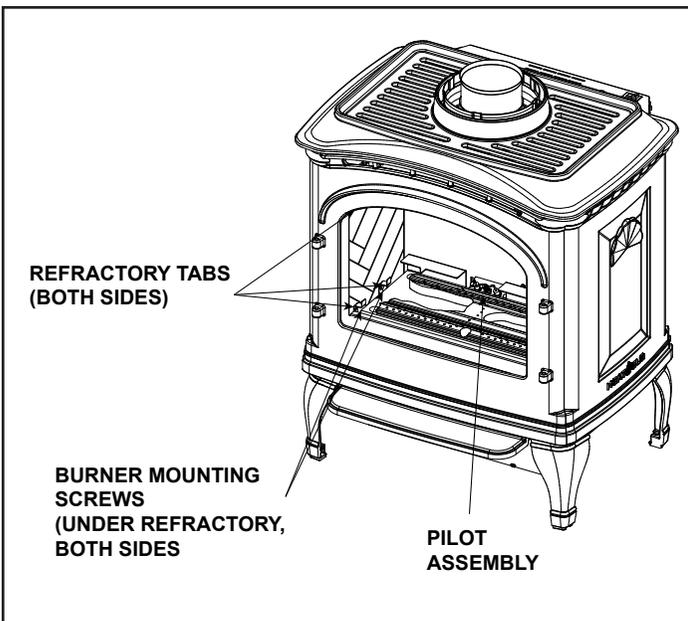

Figure 6.13 - Remove Burner
- Remove the logs and side refractory if installed. To remove side refractory, bend tab at top front corner of refractory, Figure 6.13.
- The pilot needs to be lifted slightly to accommodate the burner removal. Remove the two screws that attach the pilot to the burner. Lift the pilot slightly until it clears the pilot mounting tabs, Figure 6.13.
- Remove two burner mounting screws from each side of the burner. Lift burner up and out of appliance, Figure 6.13.